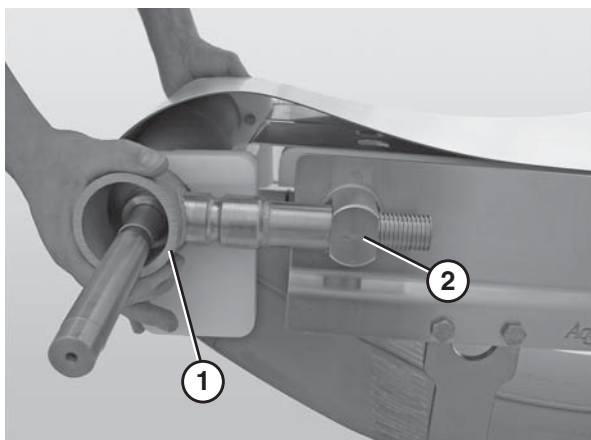

Figure 56
6. Slide the drive tail assembly (Figure 56, item 1) out of the take up blocks (Figure 56, item 2).